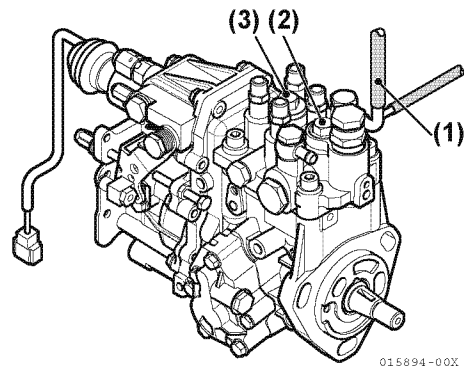

Figure 6-55
2. Clamp shut the fuel injection pump fuel return hose (**Figure 6-55, (1)**). *NOTICE: Clean the top of the fuel injection pump to prevent any contamination when the fuel injection pump plunger plug is removed.*
3. Remove the forward fuel injection pump plunger plug (**Figure 6-55, (2)**) on the top of the fuel injection pump. *NOTICE: Do not release the distributor plug (**Figure 6-55, (3)**). Fuel injection order may change from the proper order.*